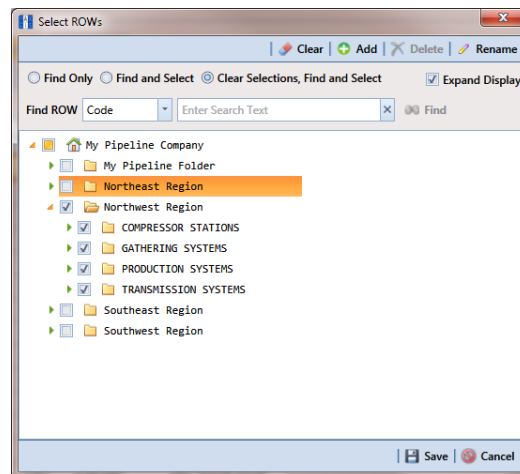

Figure 4-1. Select ROWs
The hierarchy is an organizational structure of one or more folders. Folders are organized in a tree structure based on the number of hierarchy levels set up in the system. The top level of the hierarchy is the root level that identifies your company's name. All hierarchy folders are added below the root level. The lowest level of the hierarchy includes a folder with pipelines added in the system (Figure 4-1, page 128).
- 1 Click **File** > **Select ROWs** to open the *Select ROWs* window (Figure 4-1).